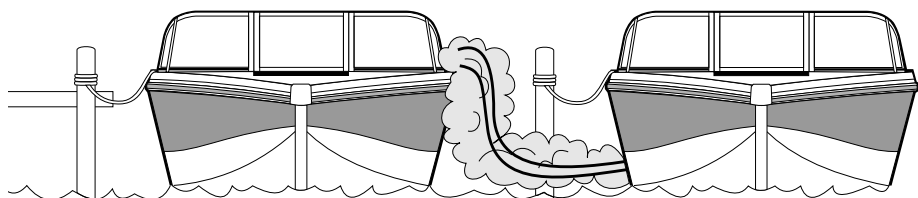

FIGURE 2-6 VESSEL ALONGSIDE
**Exhaust Fumes!** Generator or hull exhaust from other boats while either docked or anchored can emit poisonous carbon monoxide gas and cause excessive accumulation within cabin and cockpit areas. See Figure 2-6. Be alert for generator exhaust from other boats alongside.